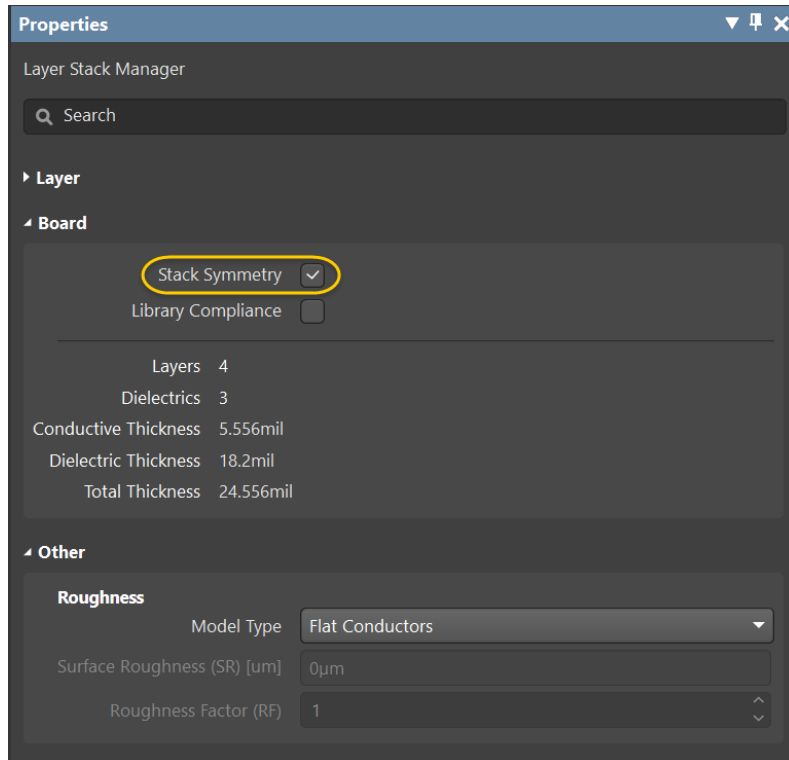

Figure 6. Stack Symmetry option
22. After inserting the signal layer, you will notice that two signal layers were added: `Layer 1` and `Layer 2`, as a result of the **Stack Symmetry** option enabled, Figure 6. You can enable or disable this option in the future.